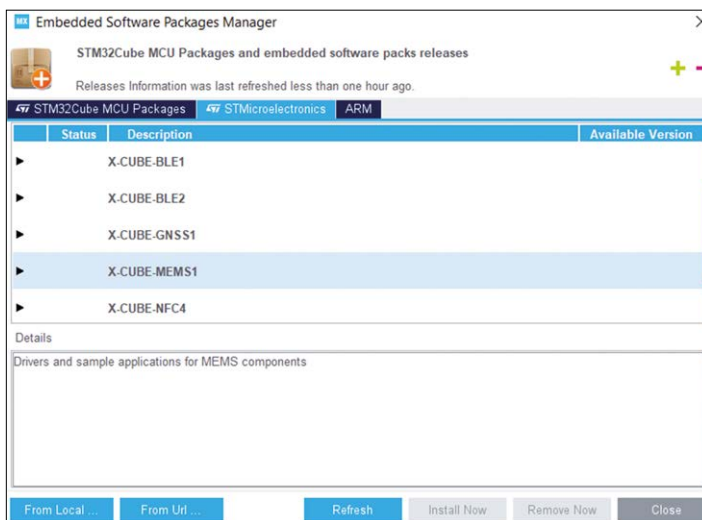

Figure 16.12: Locate X-CUBE-MEMS1.
- Click **STMicroelectronics** tab and Locate **X-CUBE-MEMS1** pack (Figure 16.12).